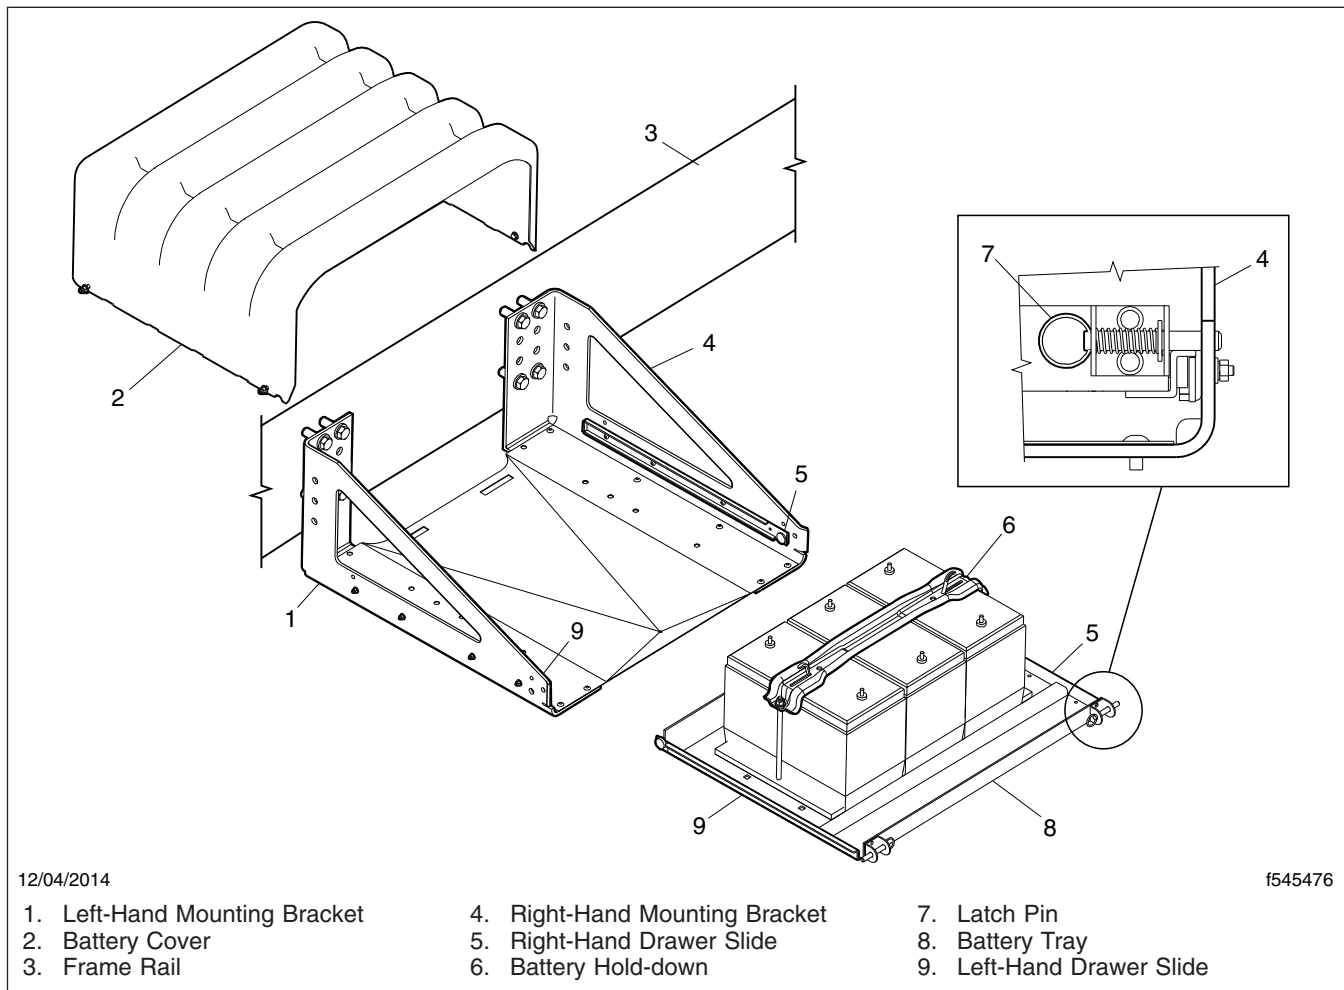

Fig. 1, Battery Box Assembly
3. Open the battery access door, release the pin latches, slide out the drawer, and remove the batteries. See Section 54.10, Subject 130 of the *Saf-T-Liner C2 School Bus Workshop Manual* for detailed battery removal procedures. **Figure 1** shows a complete battery box assembly.